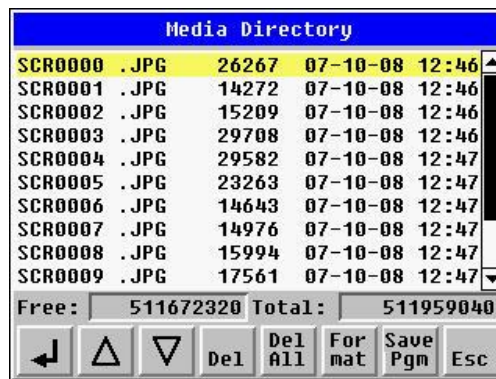

Figure 9.2 – Removable Media Submenu
**To install a MicroSD card:** Align its 8-pin gold edge connector down, facing the front of the XL7 OCS unit as shown in **Figure 9.2**; then carefully push it all the way into the Memory slot. Ensure that it clicks into place.